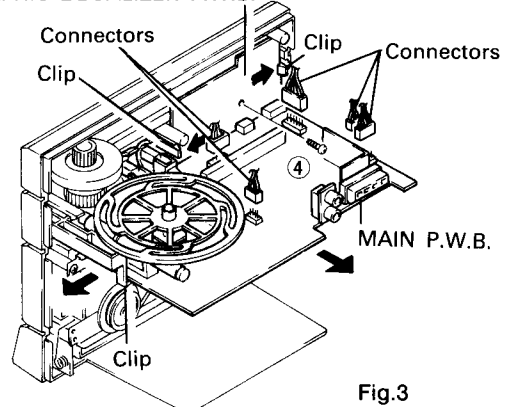

Fig.3
3. MAIN P.W.B. and GRAPHIC EQUALIZER P.W.B. (Fig. 3)